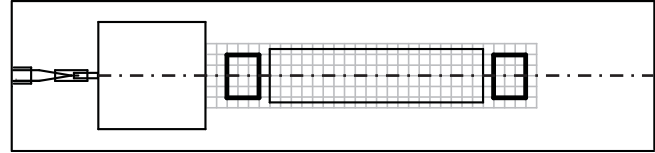

Fig. 27
Step 4. Draw the two rectangles in **Fig. 27**. Use the grid to determine the location of the rectangles.